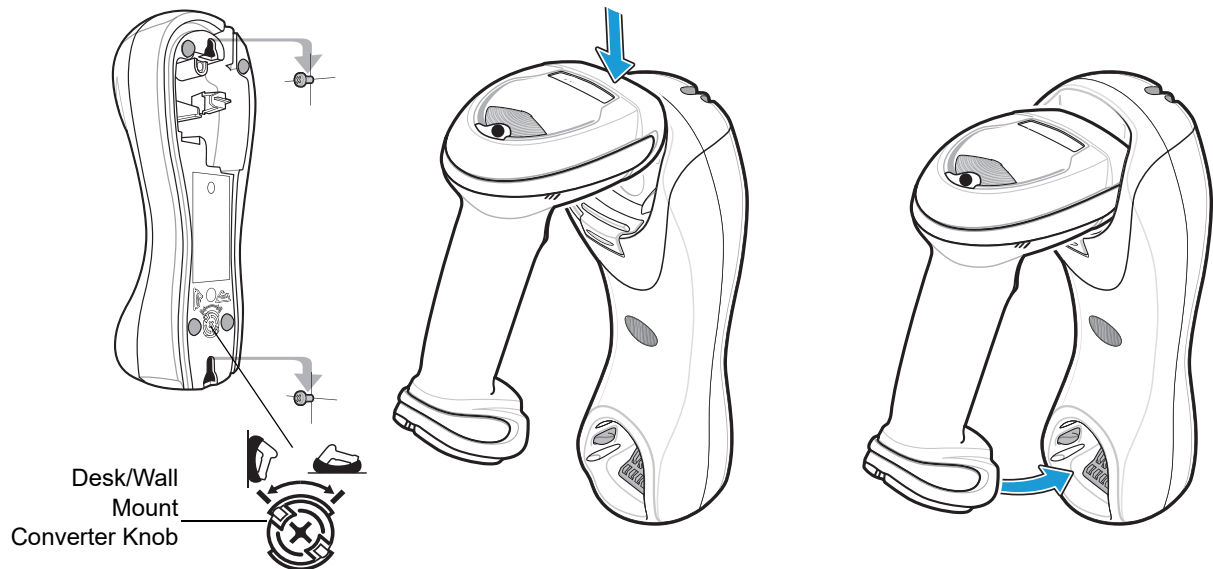

Figure 1-11 Vertical Mount - Inserting the Linear Imager Scanner in the Cradle
3. Ensure the desk/wall mount converter knob is in the position shown in *Figure 1-11*.